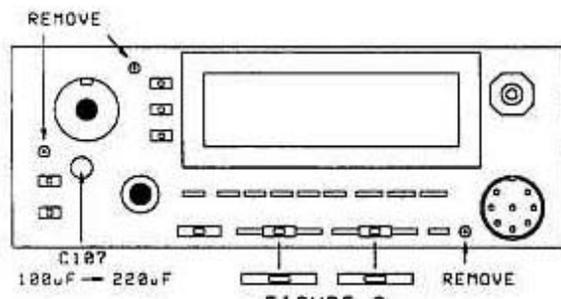

FIGURE 3
7. Remove the three brass colored screws from Control board B/3. Figure 3.
32. Replace C107 with the 220  $\mu$ F electrolytic. C107 is located between the Main and Sub rotary endoders. Figure 3.
11. Replace C17. Figure 3.